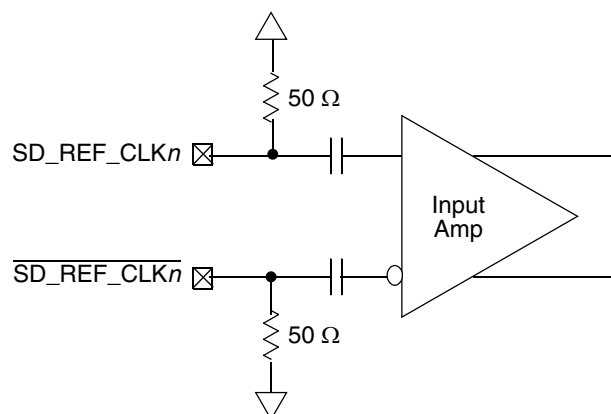

Figure 33. Receiver of SerDes Reference Clocks
- The SD_REF_CLKn and $\overline{SD_REF_CLKn}$ are internally AC-coupled differential inputs as shown in Figure 33. Each differential clock input (SD_REF_CLKn or $\overline{SD_REF_CLKn}$) has on-chip 50- Ω termination to SGND followed by on-chip AC-coupling.